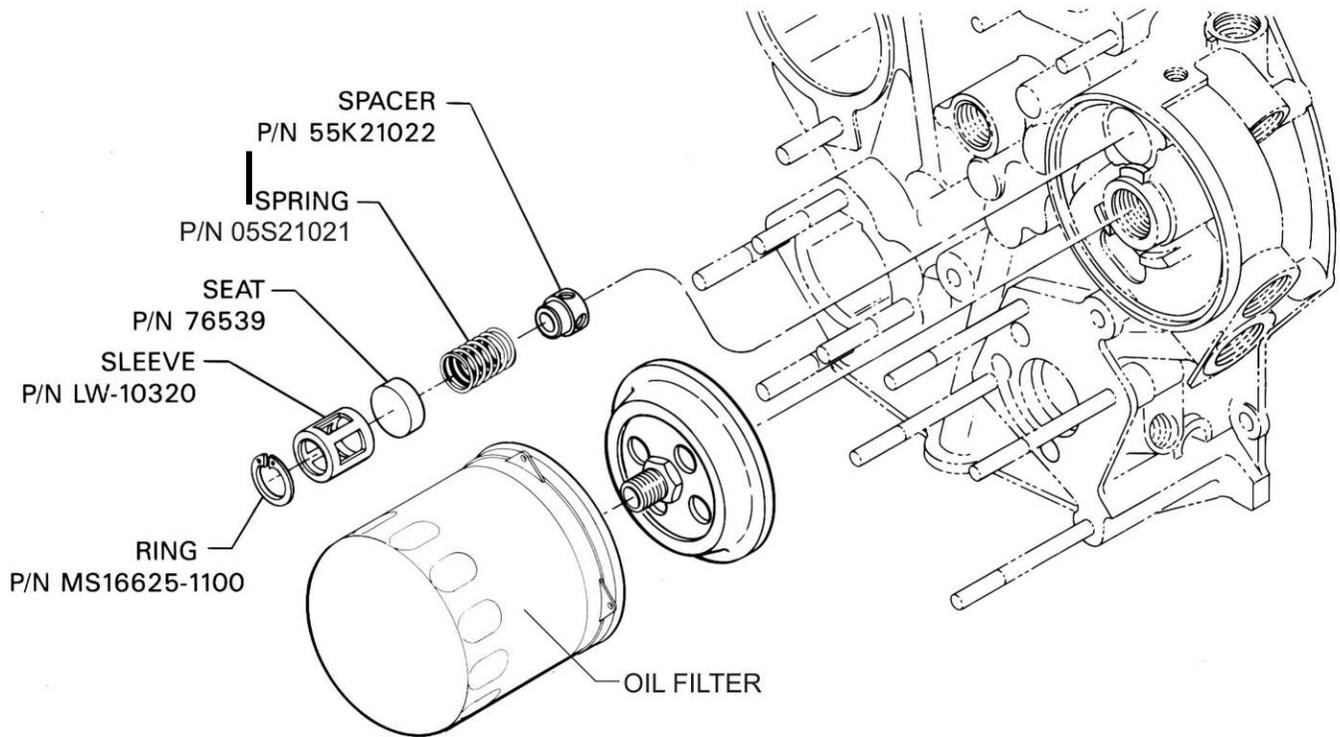

Figure 1
1. Remove the oil filter (Figure 1).